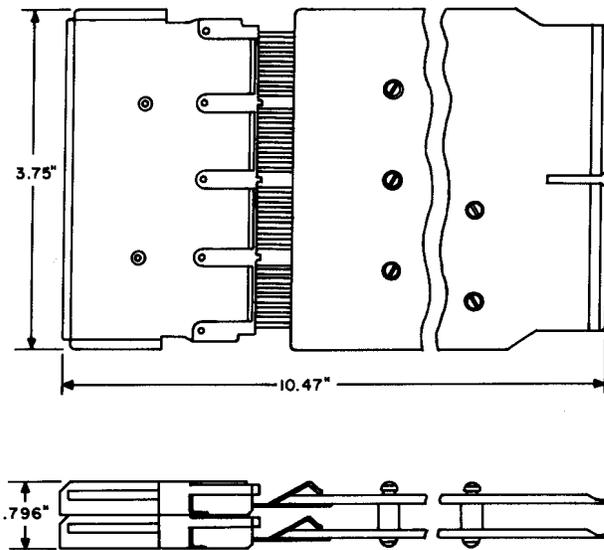

Fig. 9—801A Extender Tool
2.18 **801A:** The 801A extender tool (Fig. 9) is used to extend the A699 circuit packs on the service observing unit, J3B007AC-50 for testing.